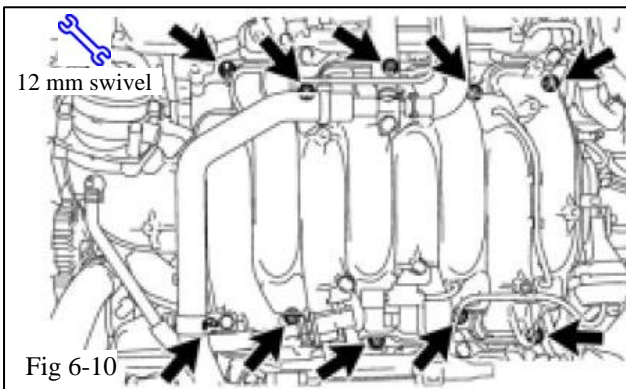

Fig 6-10
- (k) Using the 12mm – 6 pt 3/8” drive swivel socket remove the 2 nuts, 8 bolts and the intake manifold (Fig 6-10). See recommended tools list page 4.